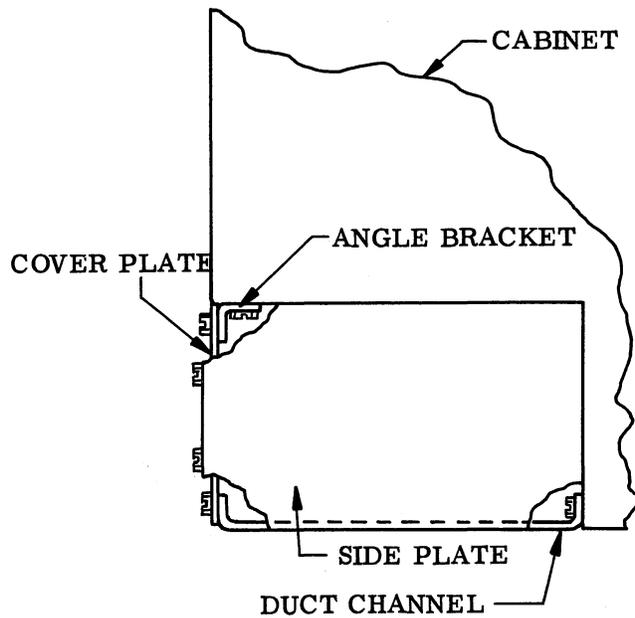

Figure 28 - Cable Ducting
19.01 Upon completion of all system wiring, the cable duct can be closed. Using the screws provided, attach the cover plate to the duct channel and angle bracket. See Figure 28.